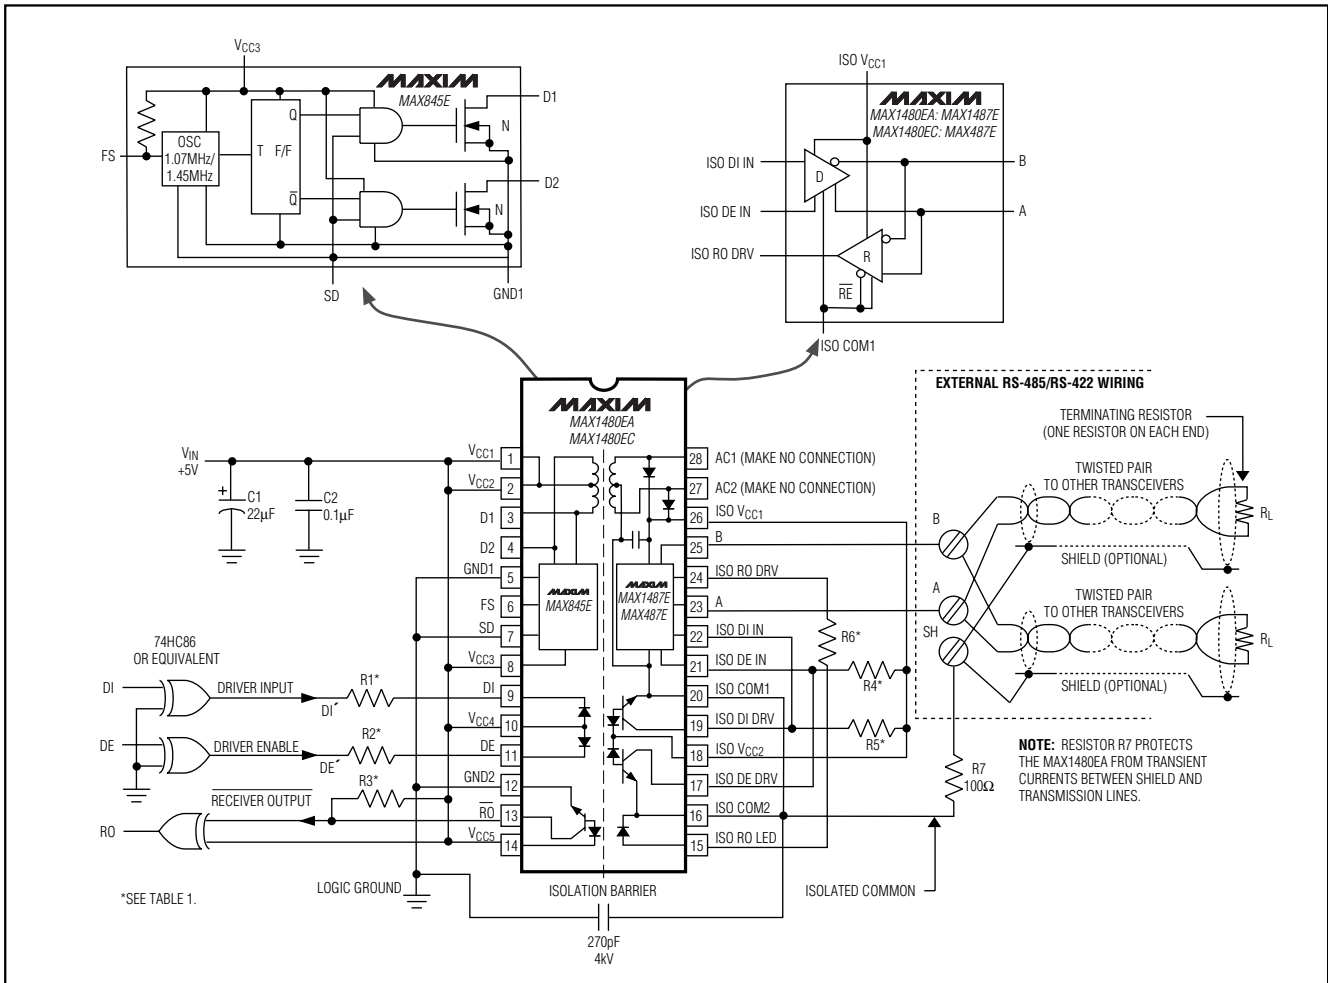
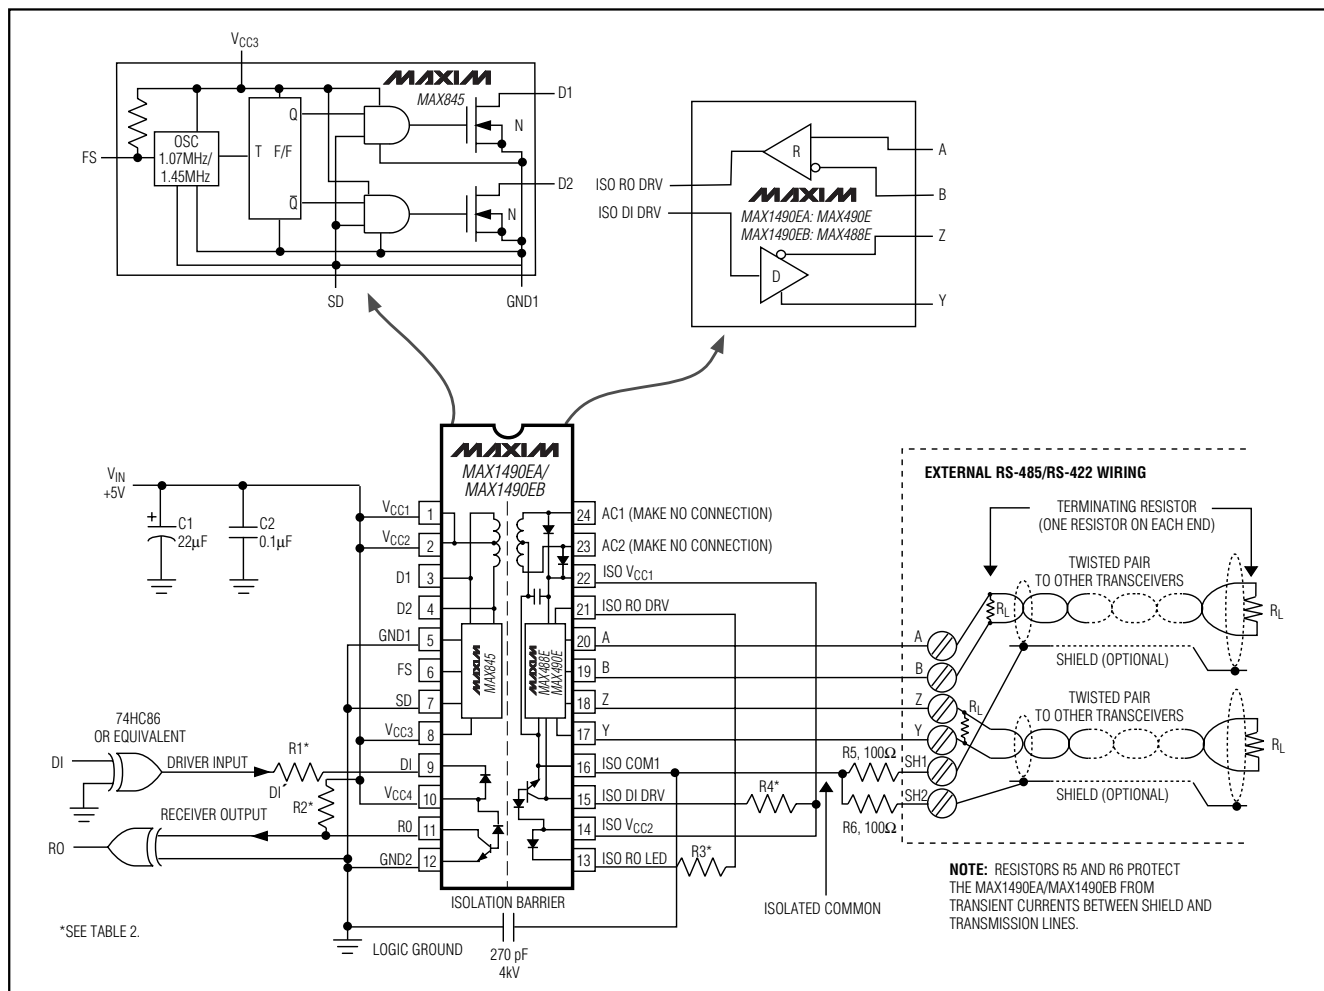

Figure 1. MAX1480EA/MAX1480EC Detailed Block Diagram and Application Circuit
Figure 2. MAX1490EA/MAX1490EB Detailed Block Diagram and Typical Application Circuit
**Note 2:** For DE+ and DI+ pin descriptions, see *Detailed Block Diagram and Typical Application Circuit* (Figure 1 for MAX1480EA/MAX1480EC, Figure 2 for MAX1490EA/MAX1490EB).
( $V_{CC-} = +5V$ ,  $V_{FS} = V_{CC-}$ , Figures 1 and 2,  $T_A = +25^\circ C$ , unless otherwise noted.)
( $V_{CC-} = +5\text{V}$ ,  $V_{FS} = V_{CC-}$ , Figures 1 and 2,  $T_A = +25^\circ\text{C}$ , unless otherwise noted.)
( $V_{CC-} = +5V$ ,  $V_{FS} = V_{CC-}$ ,  $V_{DI} = 0$ ,  $\overline{DE}$  toggled 0 to 5V at 5kHz, Figures 1 and 2,  $T_A = +25^\circ C$ , unless otherwise noted.)
**Note:** For DE+ and DI+ pin descriptions, see Detailed Block Diagram and Typical Application Circuit (Figure 1 for MAX1480EA/MAX1480EC, Figure 2 for MAX1490EA/MAX1490EB).
The MAX1480EA/MAX1480EC/MAX1490EA/MAX1490EB are complete, electrically isolated, RS-485/RS-422 data-communications interface solutions. Transceivers, optocouplers, a power driver, and a transformer in one standard 28-pin DIP package (24-pin package for the MAX1490EA/MAX1490EB) provide a complete interface. Signals and power are internally transported across the isolation barrier (Figures 1, 2). Power is transferred from the logic side (nonisolated side) to the isolated side of the barrier through a center-tapped transformer. Signals cross the barrier through high-speed optocouplers. A single +5V supply on the logic side powers both sides of the interface. The MAX1480EA/MAX1480EC offer half-duplex communications while the MAX1490EA/MAX1490EB feature full-duplex communication. The functional input/output relationships are shown in Tables 3 through 6.
**Table 1. Pullup and LED Drive Resistors for Figure 1**
**Table 2. Pullup and LED Drive Resistors for Figure 2**
\* For DE′ and DI′ pin descriptions, see Detailed Block Diagram and Typical Application Circuit (Figure 1 for MAX1480EA/MAX1480EC, Figure 2 for MAX1490EA/MAX1490EB).
The ±15kV ESD test specifications apply only to the A, B, Y, and Z I/O pins. The test surge may be referenced to either the ISO COM or to the nonisolated GND (Figures 1 and 2).